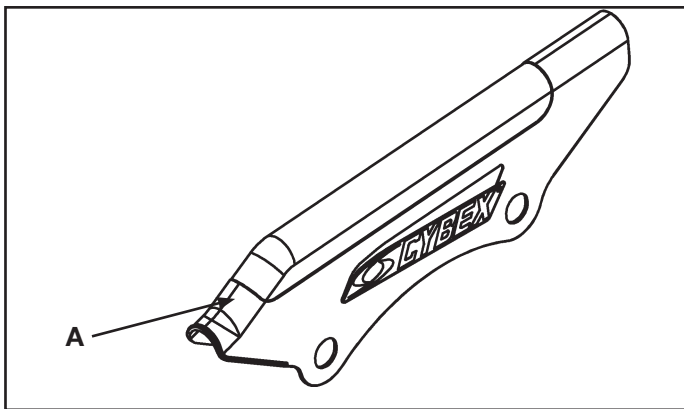

Figure 1
- 7/32" Allen wrench (2)
2. Verify you received the following (see Figure 1):